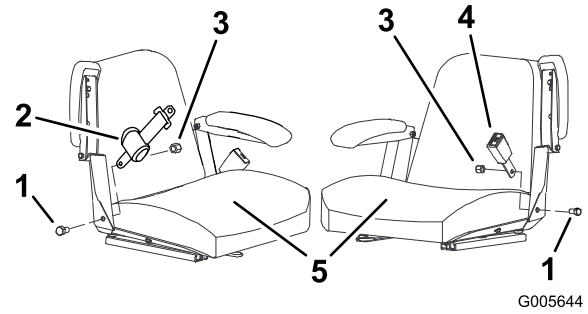

Figure 2
1. Remove the seat belt retractor and receiver from the standard seat by removing the nut and bolt securing the belt assemblies to the seat (Figure 2).